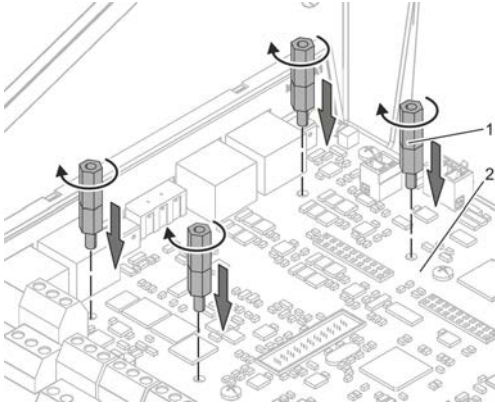

Fig. 7: Distance pieces
2. ▶ Screw the four distance pieces (Fig. 7/1) into the corresponding openings in the TCU3 or TAM main PCB (Fig. 7/2) and tighten them (hand-tight).